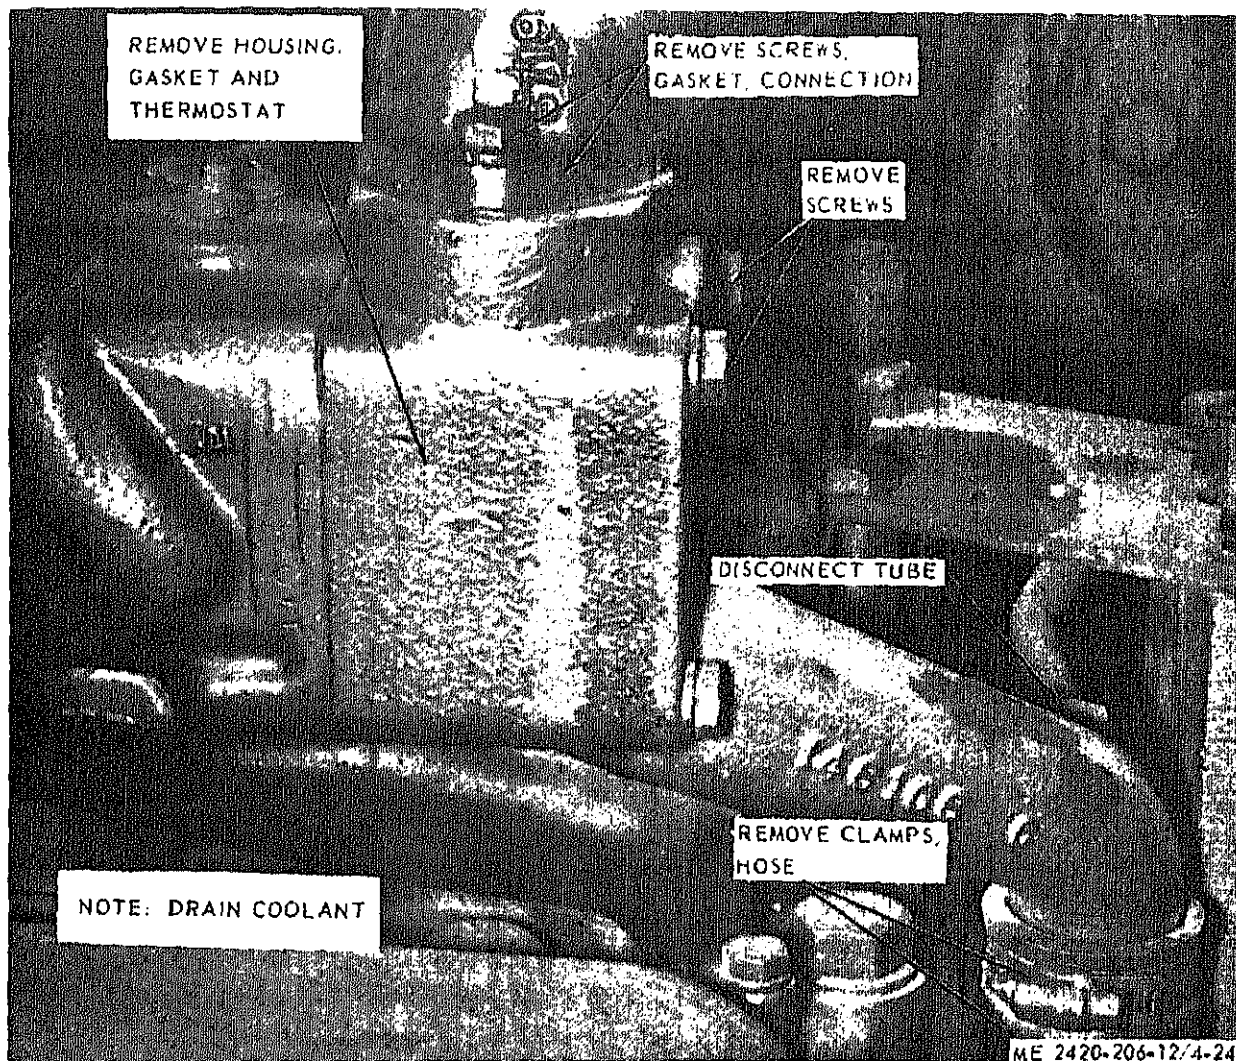

Figure 4-24. Coolant thermostat, removal and installation.
a. Removal. Remove thermostat as illustrated in figure 4-24.
(1) Clean thermostat housing and parts with a